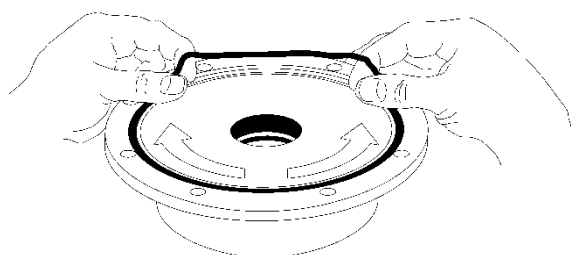

Figure 10 - Head O-ring Installation
5. Install a new head O-ring (72) in the groove on the inside face of the head (20). Lay the O-ring flat and start in on one side of the groove, stretching ahead with the fingers, as shown in Figure 10.